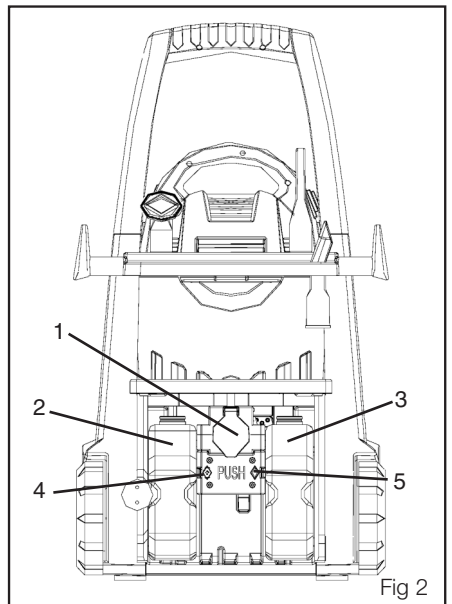

Fig 2
See Fig 2
2. Place the two arms on the top of the pressure washer ensuring that the arms lean backward as portrayed in Figure 2. These lock into place and should then be secured in place with two screws.